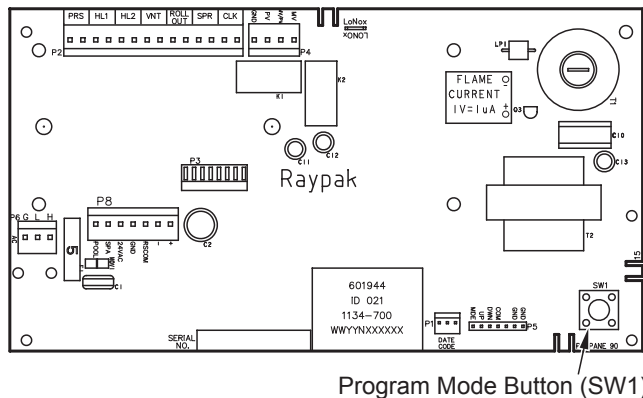

Figure 39. Thermostat Program Button (SW1)
1. Remove the four screws holding the control cover, and swing the panel down so the back side of the board is visible. Locate the Program Mode button (SW1) as shown in **Figure 39**. Press and hold the button for 5-7 seconds until SET FACTORY DEFAULTS appears on the display. Release the program button.